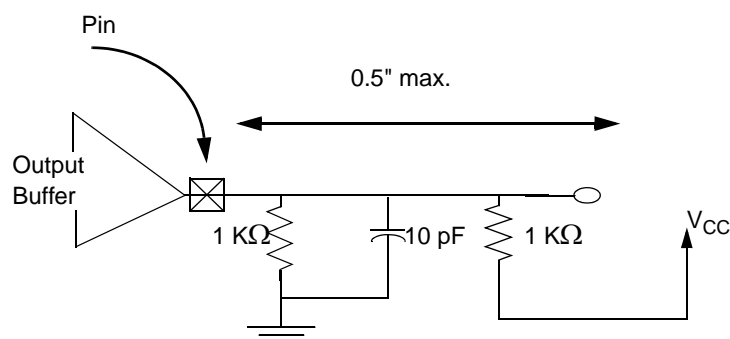

Figure 8-13. Testing Setup for PCI Slew Rate and Minimum Timing
3. Rise slew rate does not apply to open-drain outputs. This parameter is interpreted as the cumulative edge rate across the specified range, according to the test circuit in Figure 8-13.